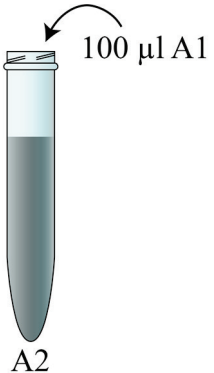

Fig. 11
10. Next, use a P200 micropipette and a new tip to transfer 100 μ l mixture from tube “A1” to tube “A2” (Fig. 11). Hence, the mixture in tube “A2” is a 100-fold dilution of the “A1” mixture. Mix tube “A2” by turning it upside down three times.